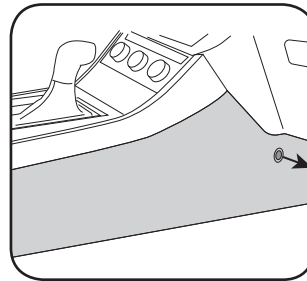

Fig. 1.10
10. Remove one (1) T20 Torx screw from the center console side panel, and release the clips to remove. (Fig. 1.10)